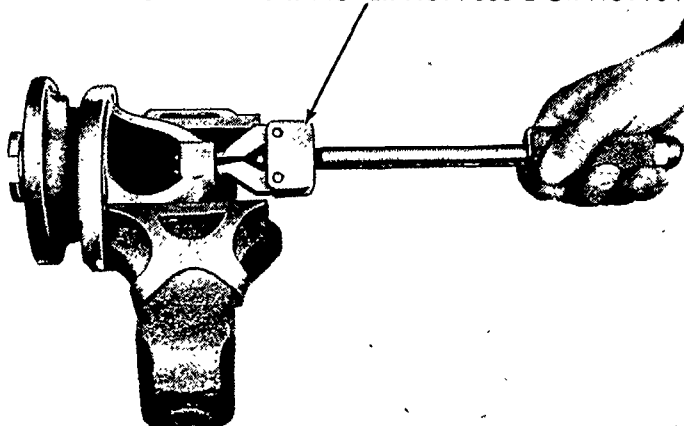

Figure 41
2. **Diesel Tractors:** Remove the bushing from the drive end housing with clutch pilot bearing removal tool, No. 7600-E or No. 954, Figure 41.